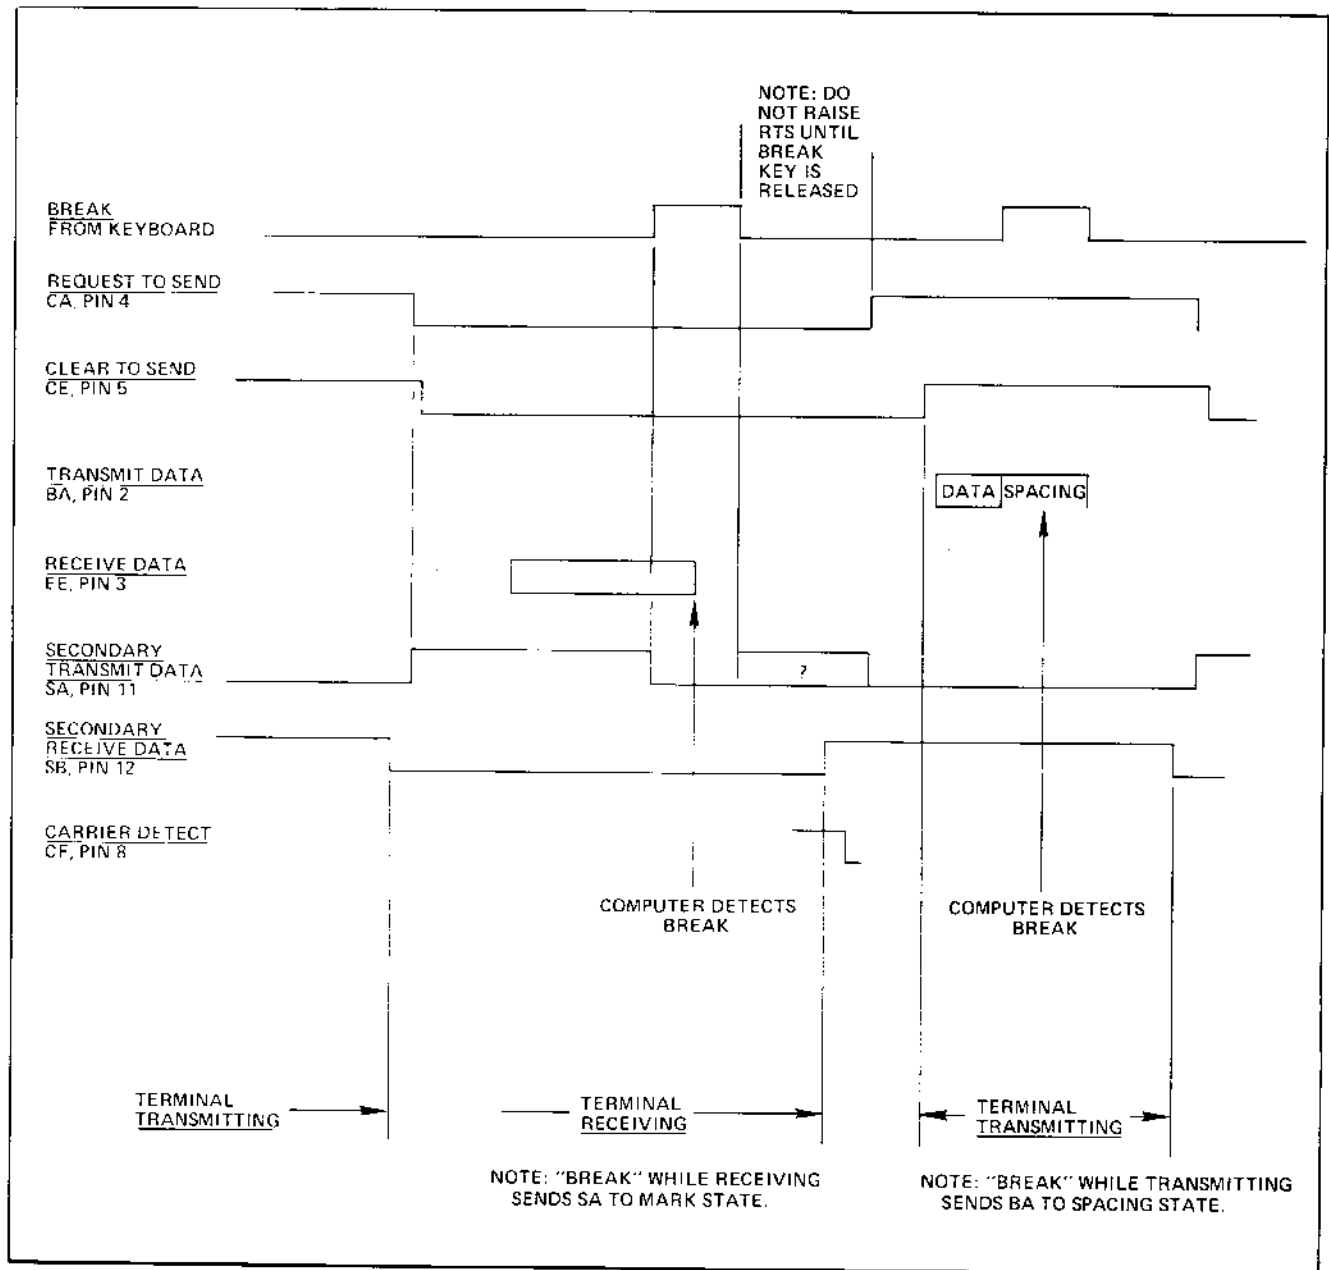

Figure 4-17. Interface Timing for Reverse-Channel Operation
**4.3.17.2 Reverse-Channel Control.** In reverse-channel operation RTS is controlled by SEC RECV DATA (SB) and CARRIER DETECT (CF) from the modem. When SB goes low, RTS is unconditionally reset (figure 4-17), switching the interface to receive data. In normal reverse-channel receive operation, CF is high at this time, causing SEC XMIT DATA to rise.